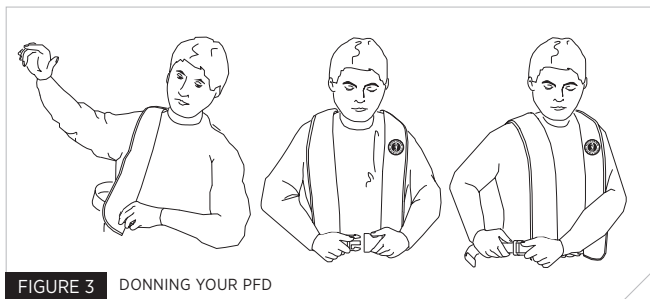

FIGURE 3 DONNING YOUR PFD
2. Put the PFD on just like a jacket (Fig. 3) and fasten the front buckle. Adjust the waist belt using the side buckle on the belt and secure the belt's loose end in the belt loop.